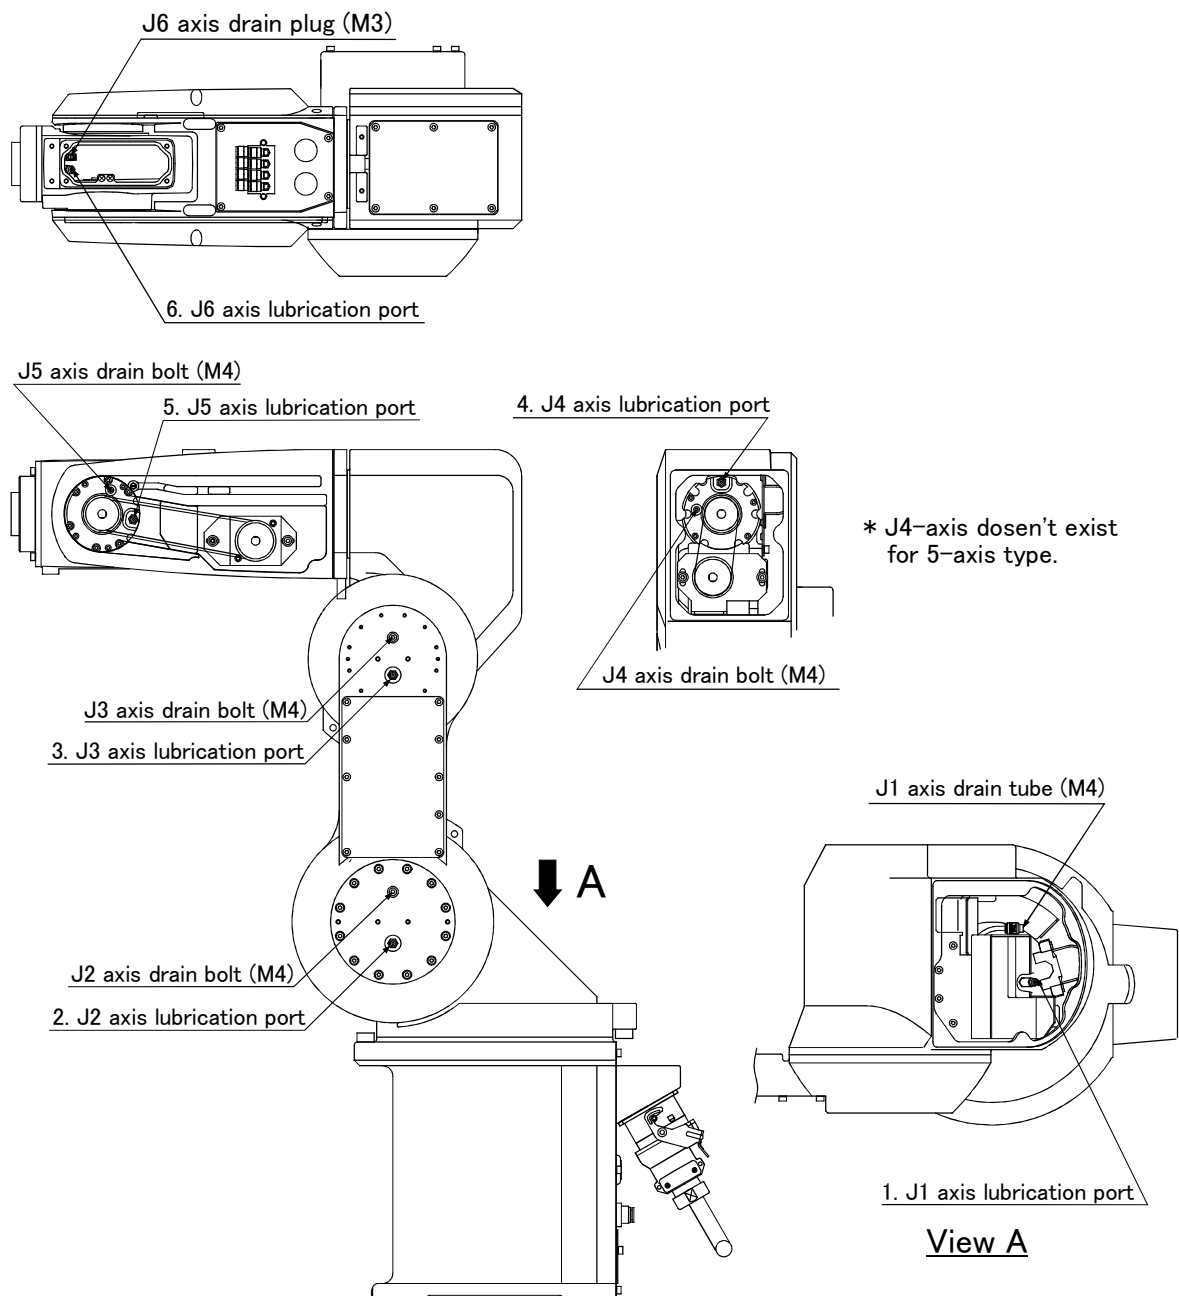

Fig.5-9 : Lubrication positions
The grease nipple position is shown in Fig. 5-9. The lubrication specifications for each place are shown in Fig. 5-9.
- The numbers in the correspond to the supply positions in Fig. 5-9.
(2) Lubrication method
- 1) Set the robot to the posture shown in Fig. 5-9.